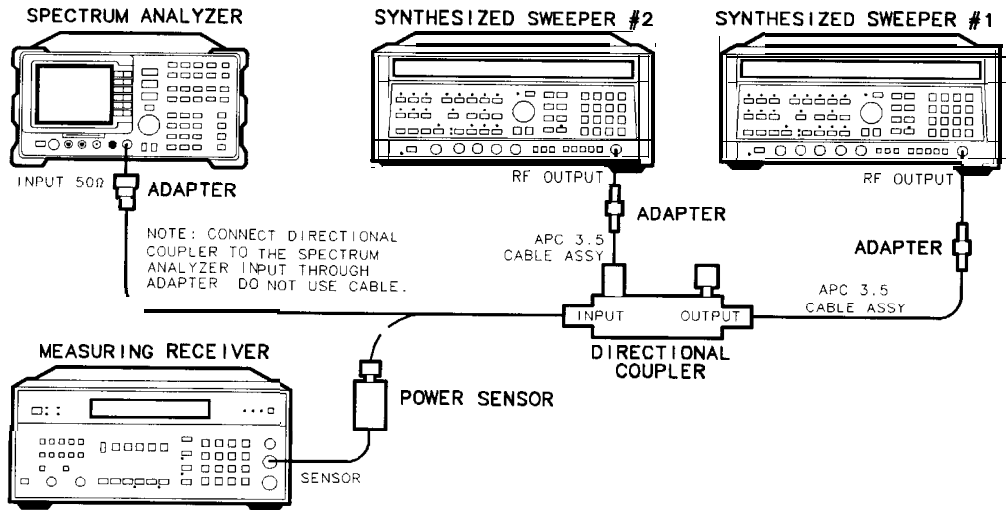

Figure 2-50. Third-Order Intermodulation Distortion **Test** Setup
10. Connect the equipment as shown in Figure 2-50 with the input of the directional coupler connected to the power sensor.